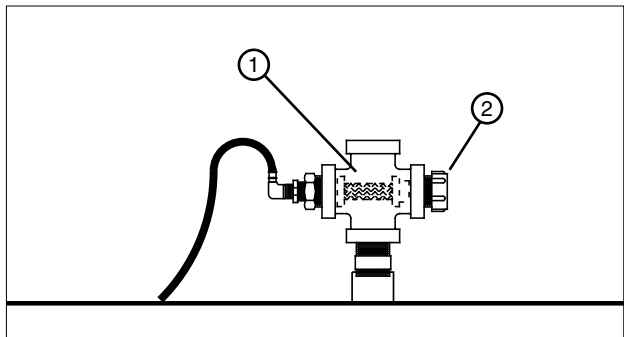

Figure 40-3 1. Cross Filter
- Clean the end gun shut off solenoid valve cross filter or optional dirty water filter. See Figures 40-3 and 40-4. Refer to caution and note below.
- OVER TIGHTENING OF THE 3/4 PIPE PLUG CAN CAUSE SCREEN FILTER DAMAGE NOT ALLOWING WATER TO REACH SOLENOIDS. SEE FIGURE 40-3.
- Tighten 3/4 pipe plug hand tight, then 1/4 turn using pliers. See Figure 40-3.